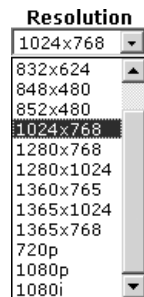

Figure 45. Resolution Scroll Box
1. Click in the **resolution** field. A drop-down scroll box appears (see figure 45).